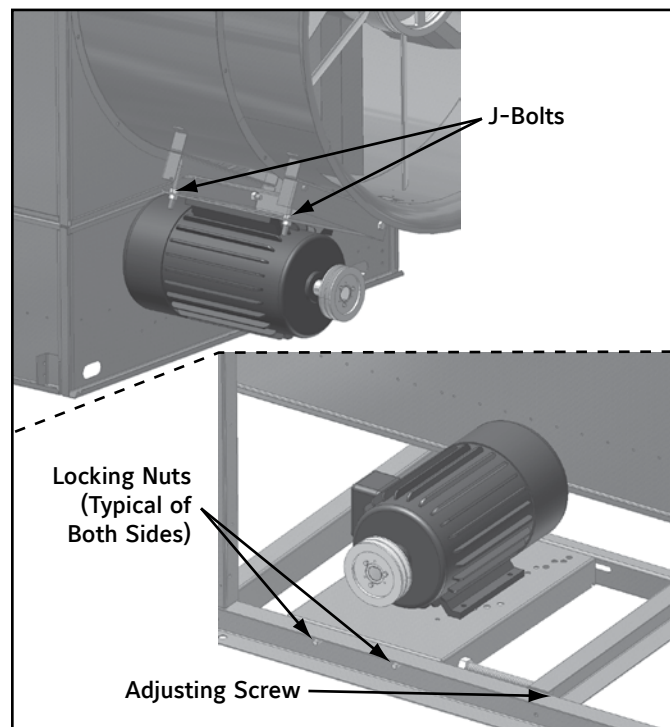

Figure 14 - Lubricating Motor Base Adjusting Screws
- Prior to seasonal start-up, lubricate the motor base adjusting screws and the fan shaft bearings. Then coat the motor base slides and adjusting screws every 3 months using good quality corrosion inhibiting grease such as one recommended for lubricating the fan shaft bearings (see Figure 14). At initial start-up, no bearing lubrication is